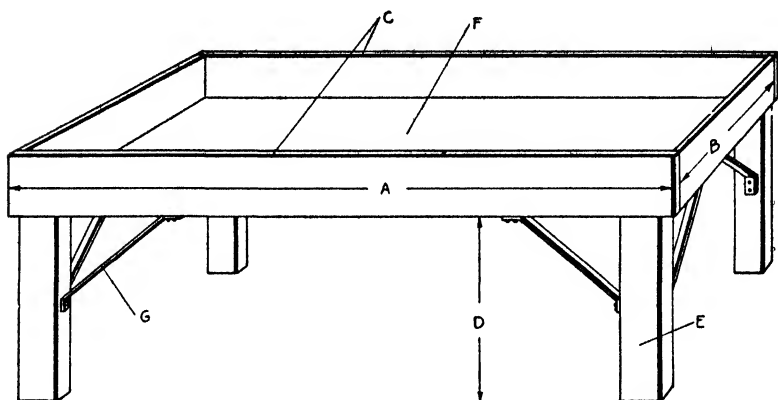

Fig 28 Wash Rack for Cleaning Generator Parts
**Wash Rack.** A serviceable wash rack is shown in Fig. 28. This is placed wherever convenient and a pail is set under it to catch the drip. The sides *C* and the bottom are made of 1-inch pine; the legs *E* are 2"×4". The iron brackets *G* support the legs, which may be any desired height. The length *A* should be 3 feet, and the width *B*, 18 inches; if made too large the rack collects trash. The inside is lined with 28-gage galvanized iron with a drain hole at *F*. Some shops put casters on this rack and move it from bench to bench.